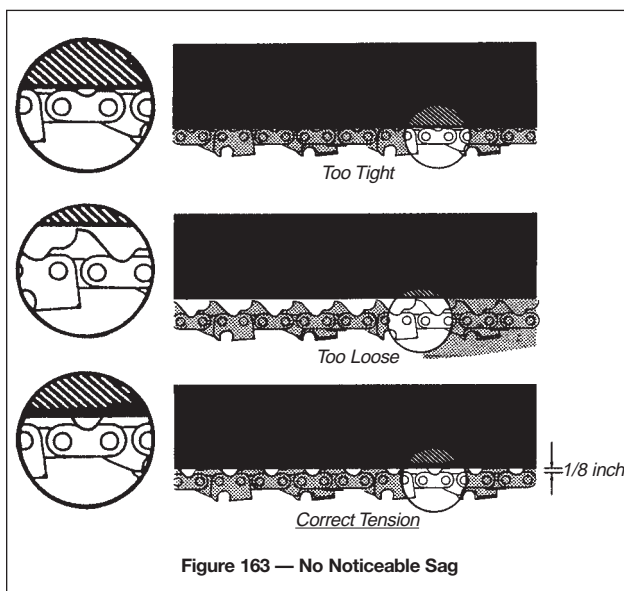

Figure 163 — No Noticeable Sag
- In general, the chain should move easily around the bar by hand without showing noticeable sag at the bottom (Figure 163).